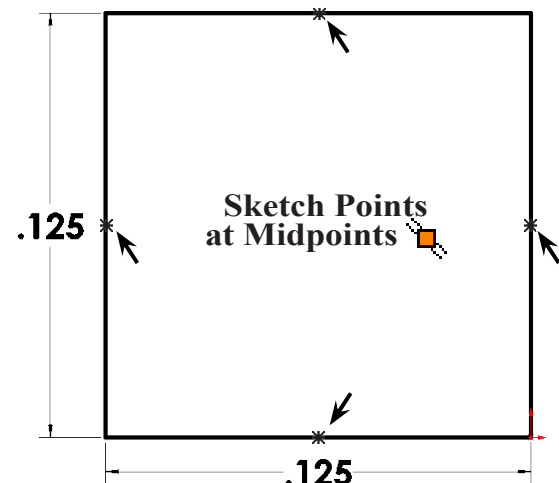

Fig. 3
Step 2. Sketch Point at midpoint of each line of rectangle, **Fig. 3**. To find midpoint, move cursor across line and as cursor approaches midpoint highlights  and you click.